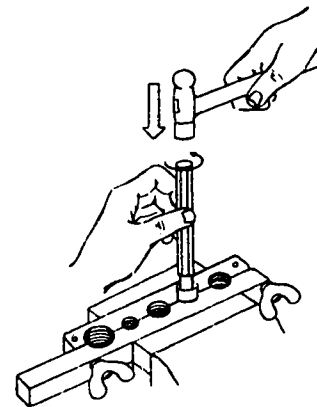

Figure 4.
3. Insert the proper size swaging tool in the tubing as illustrated in figure 4.